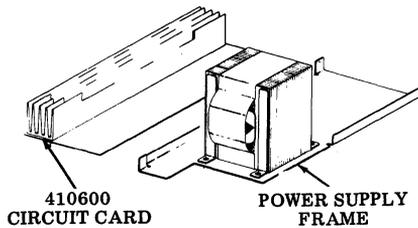

Fig. 23
- (a) Place the regulator circuit card, component side up, directly behind the power supply frame (Fig. 23).